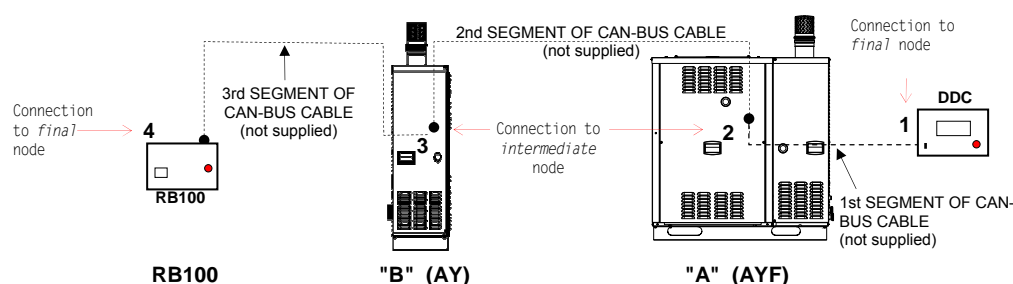

Figure 15 Examples for CAN BUS network with 4 nodes = 2 Robur units + 1 RB100 + 1 DDC
Appliance and DDC communicate by CAN BUS network (Figure 15, on page 34).
CAN-BUS network shown in scheme in Figure 15 has the following nodes:
- If DDC is an **intermediate node** on network (see Figure 15/Page 34): also perform point 7;
- If appliance is an **intermediate node** on network (Figure 15/Page 34) also perform point 7.